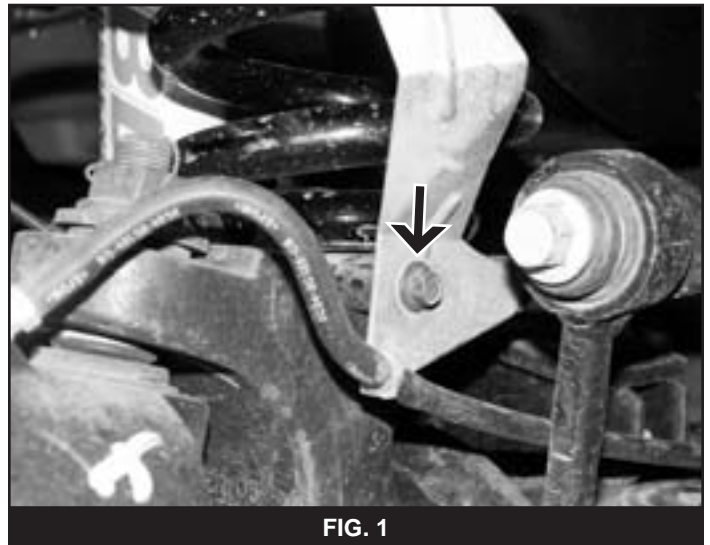

FIG. 1
6. Disconnect the front brake lines from the axle and frame (Fig 1). Retain hardware.